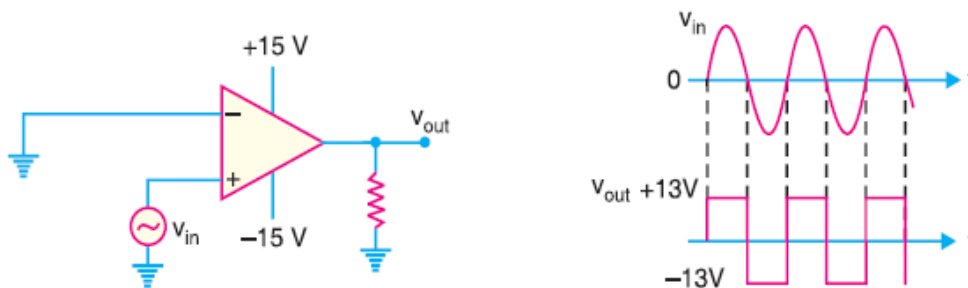

Fig. 10
**As a zero-crossing detector.** When one input of a comparator is connected to ground, it is known as *zero-crossing detector* because the output changes when the input crosses 0 V. The zero-crossing circuit is shown in Fig. 10. The input and output waveforms are also shown. When the input signal is positive-going, the output is driven to positive maximum value (i.e.  $+V_{sat} = +13$  V). When the input crosses the zero mark and begins to go negative, the output is driven to negative maximum value (i.e.  $-V_{sat} = -13$  V).